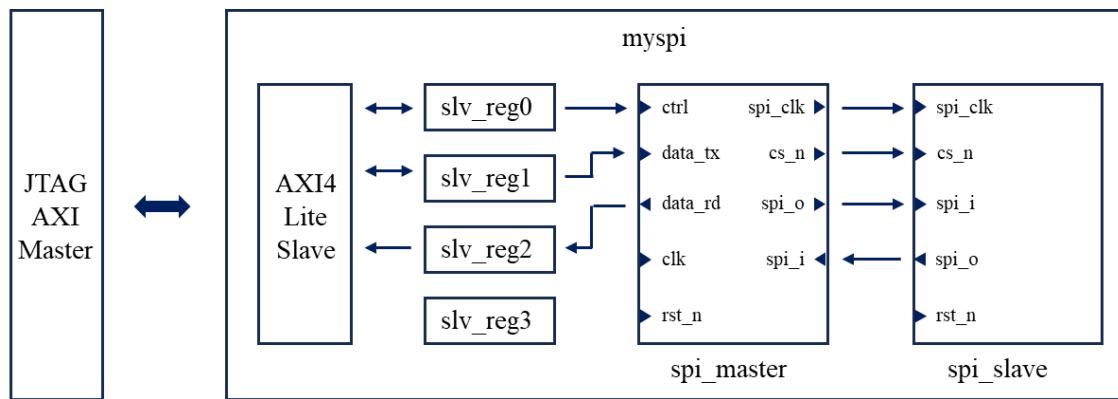
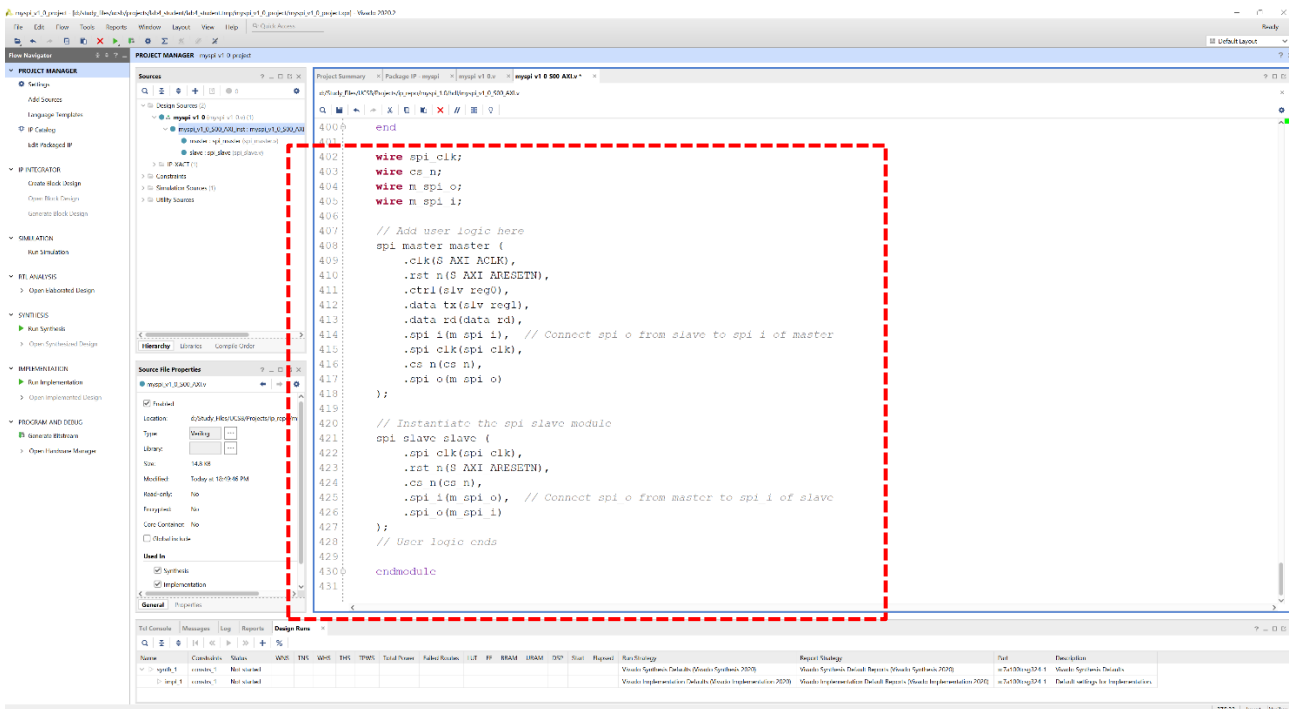

Figure 7: Design system diagram.
Figure 12: Example, incomplete instantiation of modules in the template.
The high-level system diagram is shown in Figure 7. We will adopt the setting in part A with four 32-bit slave registers. The spi_slave module is a simple loopback shift register and the Verilog code is provided to you.
- 3) Open “myspi_v1_0_S00_AXI.v” instantiate the “spi_master” and “spi_slave” modules, then connect them correctly to corresponding port and registers following the system diagram in Figure 7. An incomplete example of the instantiation is in Figure 12.
- 2) Add the line `assign debug = {spi_clk, cs_n, m_spi_o, m_spi_i};` at line 406 in Figure 12.